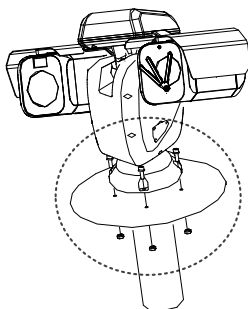

Figure 3-8 Install the Positioning System
2. Fix the positioning system onto the bracket base, as shown in Figure 3-8.